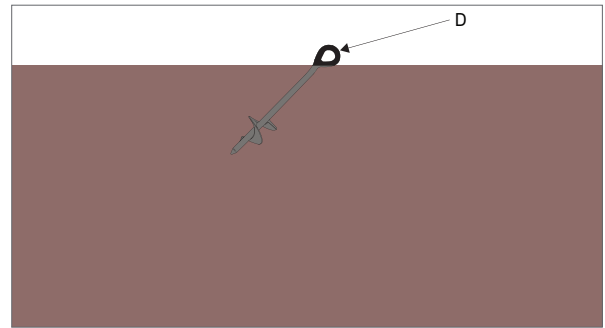
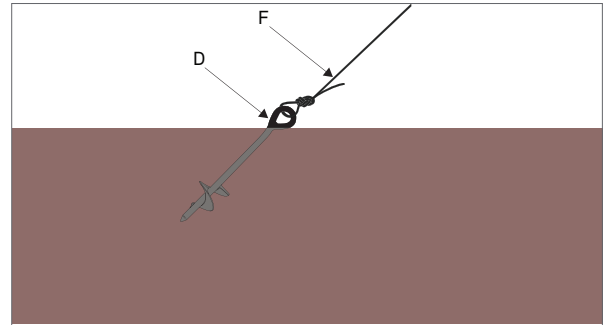

Figure 4 Guy rope screw (D) screwed into soil
Figure 5 Guy rope screw (D) with rope (F) attached
1. Screw each guy rope anchor (D) in the soil at an angle aligned with a guy rope (F) coming off the guy rope ring (G).
2. Screw each anchor (D) into the soil at an angle that is the same as the angle the rope (F) comes from the guy rope ring (G).
3. Screw the guy rope anchors in until only a little of the top loop is showing (Figure 5).
**NOTE:** If the soil is hard, making it difficult to screw the anchor (D) in the soil, use a flat screwdriver (or something similar) in the anchor (D) eye as a lever to help screw the anchor (D) into the soil.
4. Pull each guy ropes (F) to the aligned guy rope anchor (D) and securely tie to the top loop (Figure 4).
**NOTE:** The guy rope (F) should not have any play in it when all three are securely tied. The tension of the guy rope (F) pulling against each other is what stabilizes the mast (E) in an upright position.
Figure 5 shows what the anemometer mast (E) should look like when all three guy rope anchors (D) are secured.